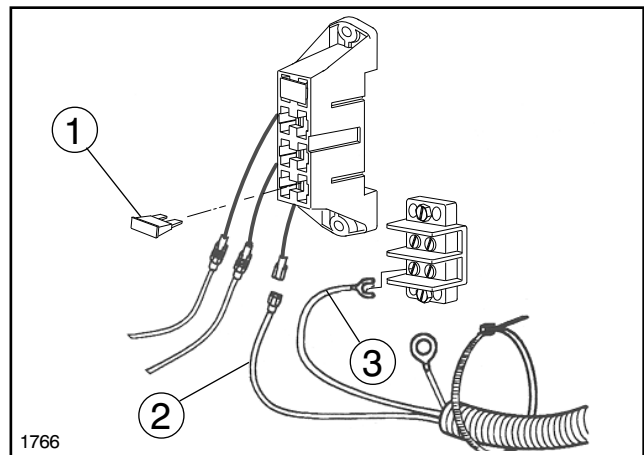

FIG. 3
8. Route Harness to Fuse Block under Operator Seat. Connect power and ground wires as shown in Fig. 3.